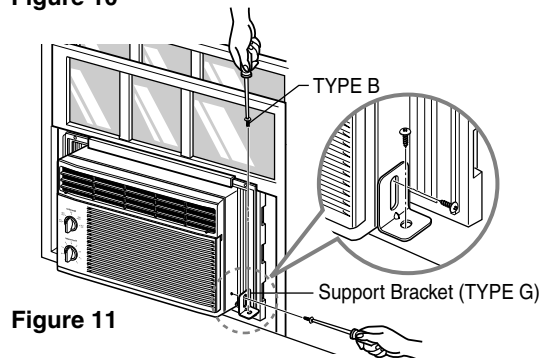

Figure 11
- b. Fasten the support bracket (TYPE G) using a removed screw. Attach the support bracket (TYPE G) in the inner window sill with a screw (TYPE B), as shown Figure. 11.